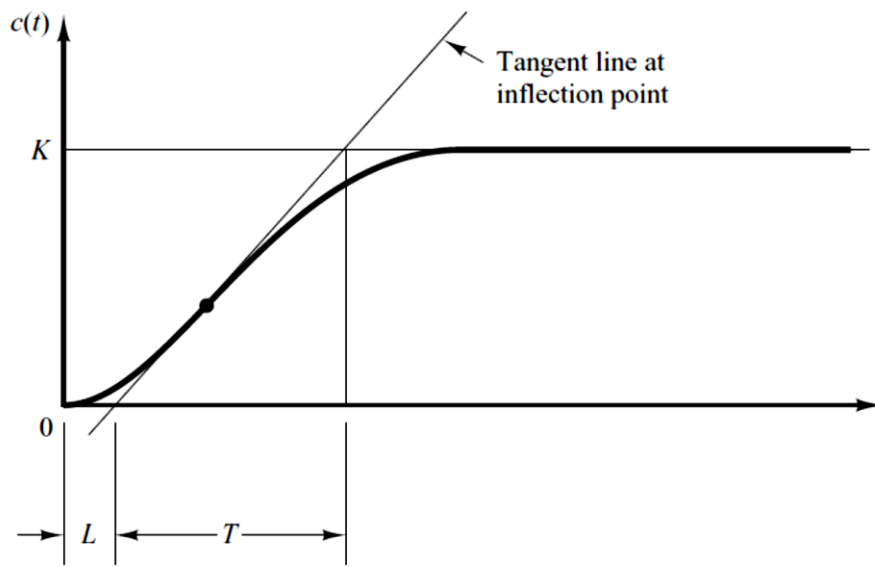

Figure 2: S-shaped response curve.
The S-shaped curve may be characterized by two constants, delay time (L) and time constant (T). The delay time and time constant are determined by drawing a tangent line at the inflection point of the S-shaped curve and determining the intersections of the tangent line with the time axis and line $c(t)=K$, as shown in the following figure 2.